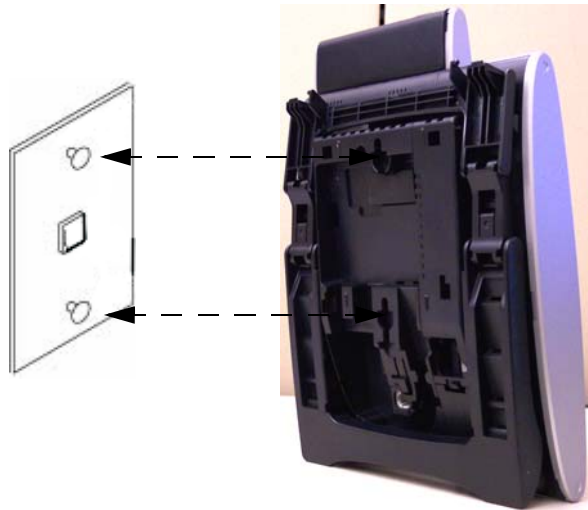

Figure 5-73 Mount Multiline Terminal Wall on Wall Plate
4. Align the two holes on the back of the multiline terminal with the two screws on the wall plate and slide downward (refer to Figure 5-73 Mount Multiline Terminal Wall on Wall Plate on page 5-76).